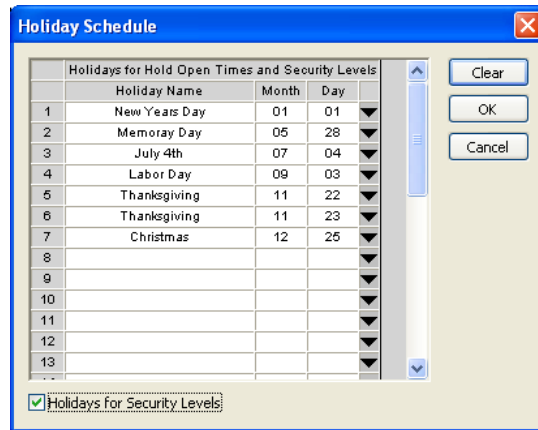

Figure 25
1. Click the HOLIDAY button on the tool bar from the relays window to display the holiday schedule window (Fig 25).